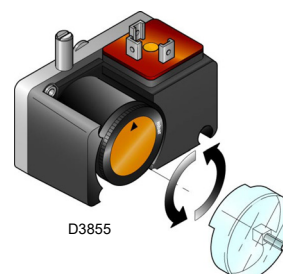

Fig. 30
- Adjust the minimum gas pressure switch (Fig. 30 on page 27) to the start of the scale.
Adjust the minimum gas pressure switch (Fig. 30) after having adjusted the burner, the gas valves and the gas train stabiliser. With the burner operating at maximum output: